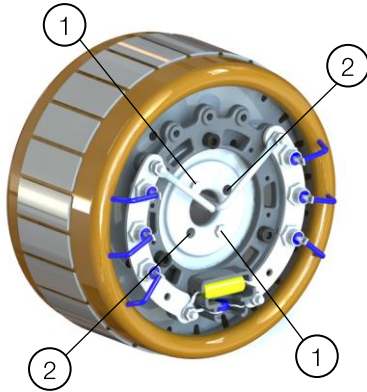

Figure 13.4: Exciter rotor GTA
2. Remove both fixing screws of the exciter rotor, according to Figure 13.4.
3. Place the screws removed in the holes indicated in Figure 13.4.
Key of Figure 13.4: